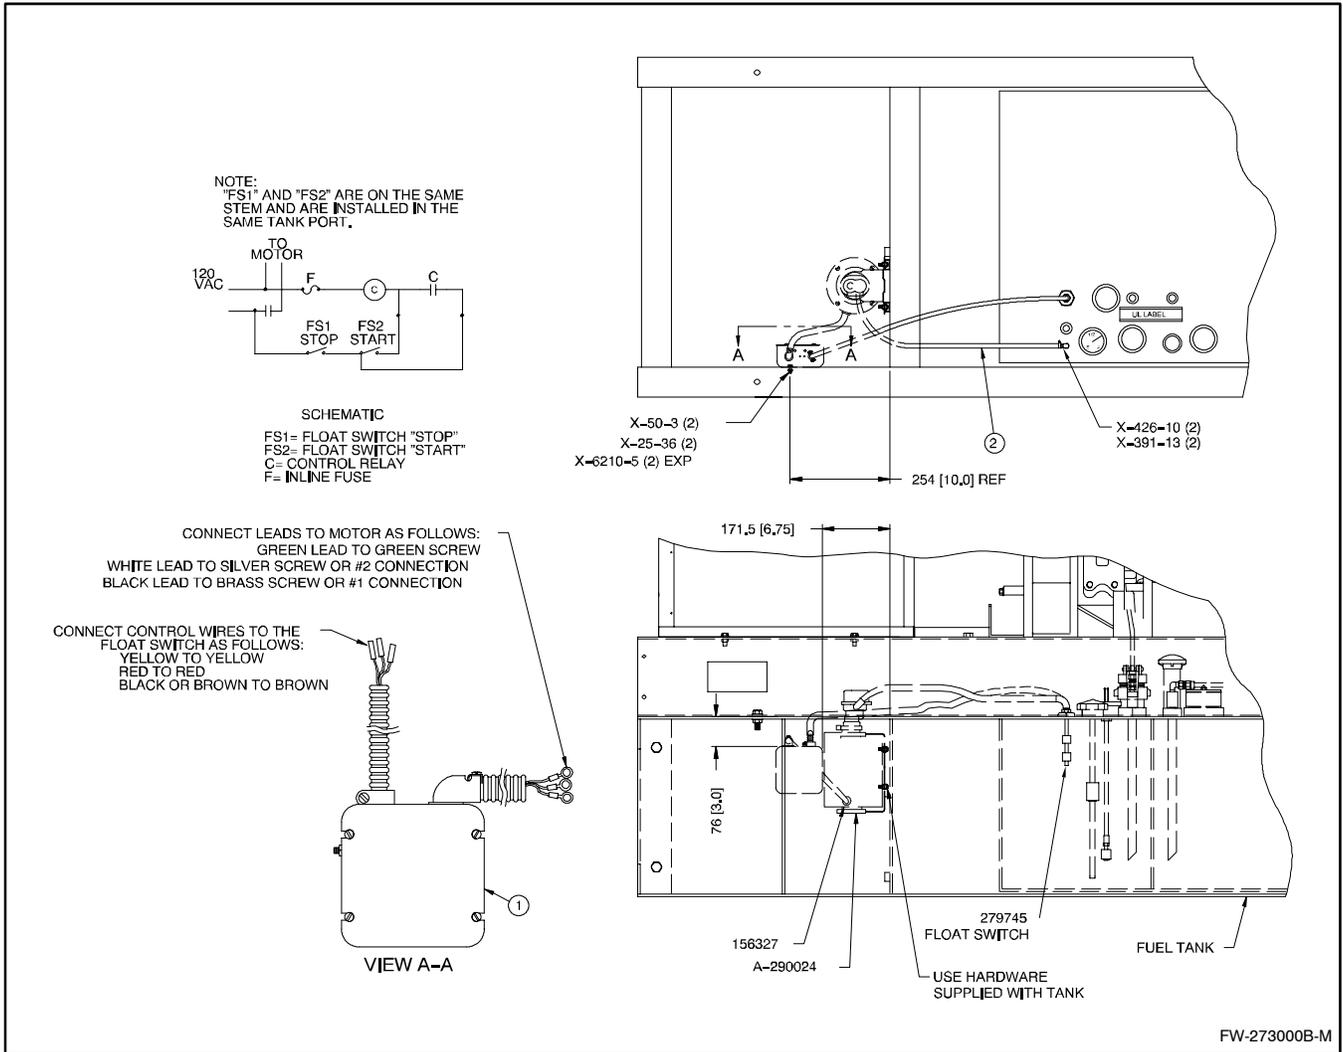

Figure 4 Day Tank Option, Relay Control Module
- a. Remove the cover plate from controller box assembly. Mount the controller box assembly (A-224862) to the skid using two screws (X-50-3), washers (X-25-36), and nuts (X-6210-5) supplied with the controller box assembly. See Figure 4. Do not yet install cover plate.
- b. Mount the transfer pump assembly to skid using hardware supplied with the tank. See Figure 4.
- i. Connect green, white, and black leads of the controller box to the transfer pump assembly. Remove the electric motor access plate. the green lead connects to the ground screw on the frame. Refer to the schematic on the electric motor and motor wiring schematic shown in Figure 4 to make connections. Replace the electric motor access plate.